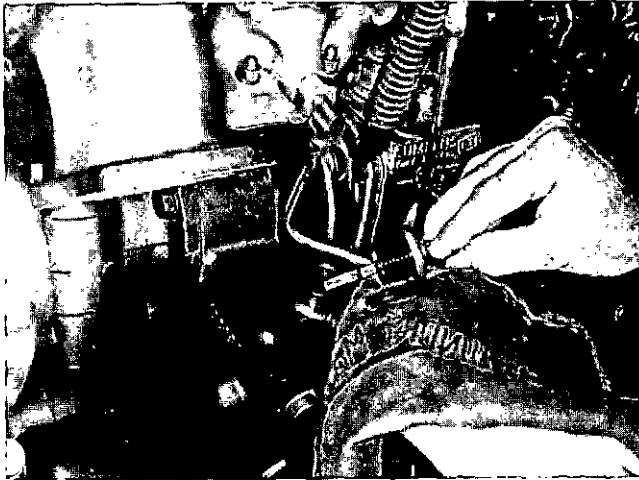

Fig. 2-2. Checking hydraulic governor oil level
2. Oil level in governor sump must be at full mark on dipstick. Fig. 2-2.